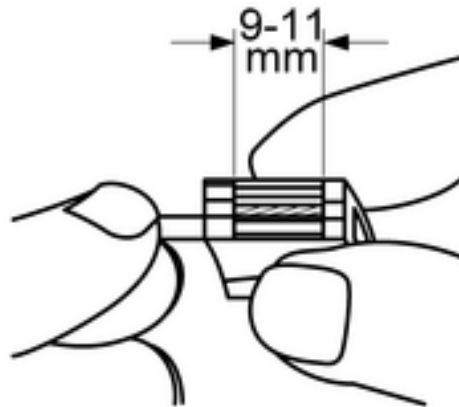

Figure 8: Stripping length
- Strip 9 - 11 mm of the cable (Figure 8).